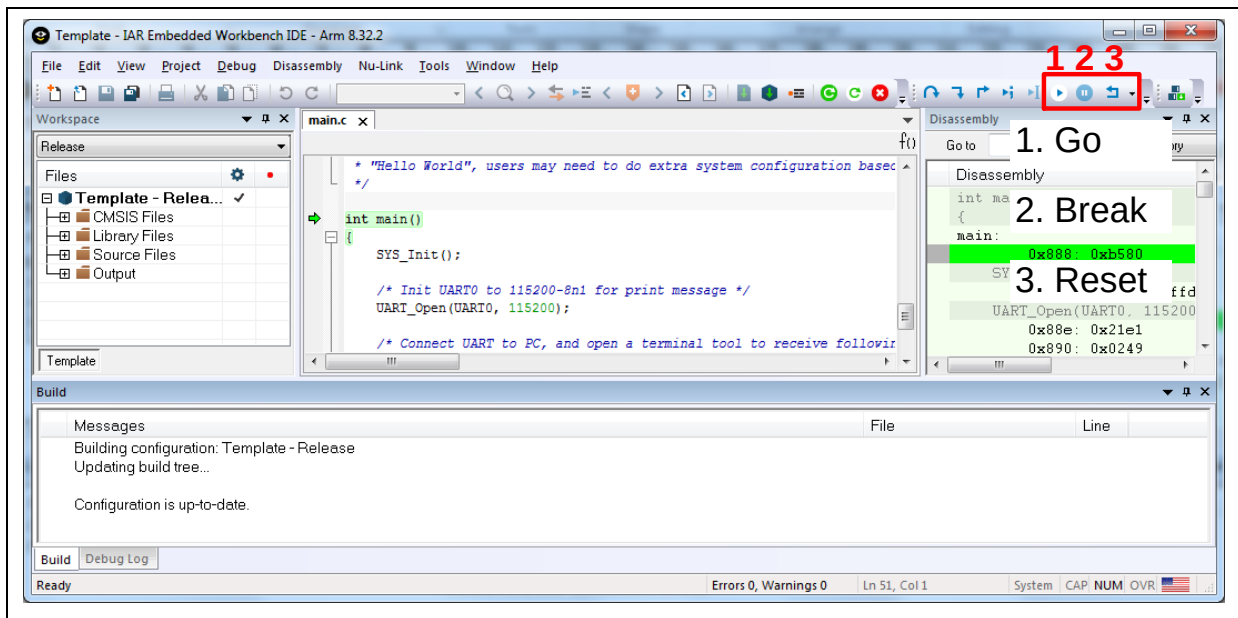

Figure 3-17 IAR EWARM Debug Mode
4. Figure 3-17 shows the debug mode under IAR EWARM. Click “Go” and the debug message will be printed out as shown in Figure 3-18. User can debug the project under debug mode by checking source code, assembly language, peripherals’ registers, and setting breakpoint, step run, value monitor, etc.